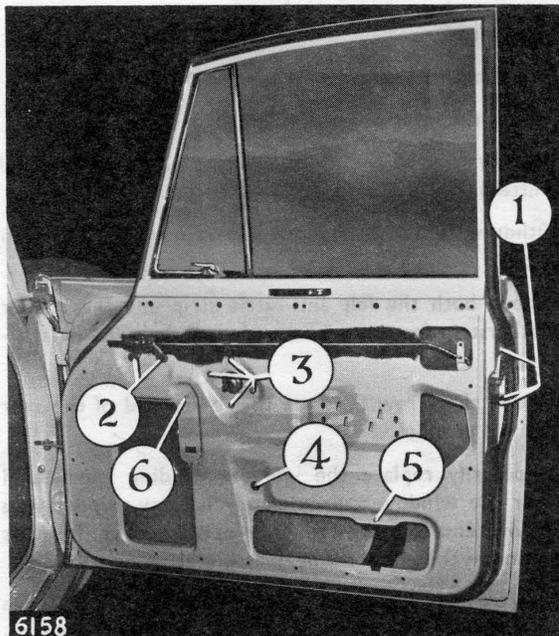

Fig. 10. View of front door (typical)
**To remove and refit** (See Fig. 10)
Withdraw screw (5, Fig. 10) and remove bottom stop bracket.